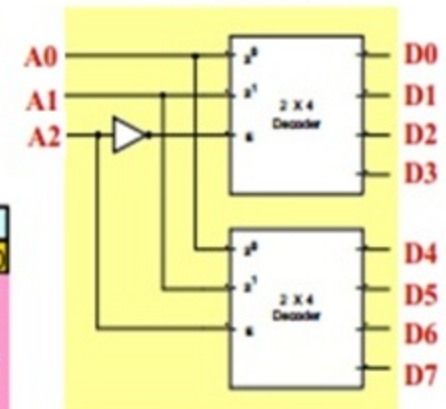

Fig. 2-3 A 3-to-8 Decoder constructed with two with 2-to-4 Decoder
- ◆ Constructed decoder : *Fig. 2-3*